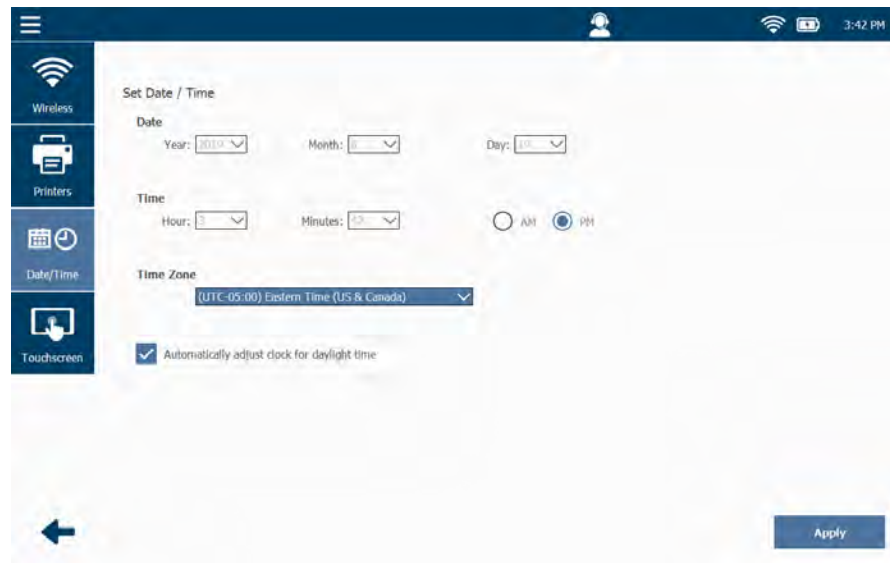

Figure 6.19 Set Date / Time Screen
- 1 Select **Touchscreen** from the Settings Menu (Figure 6.19).